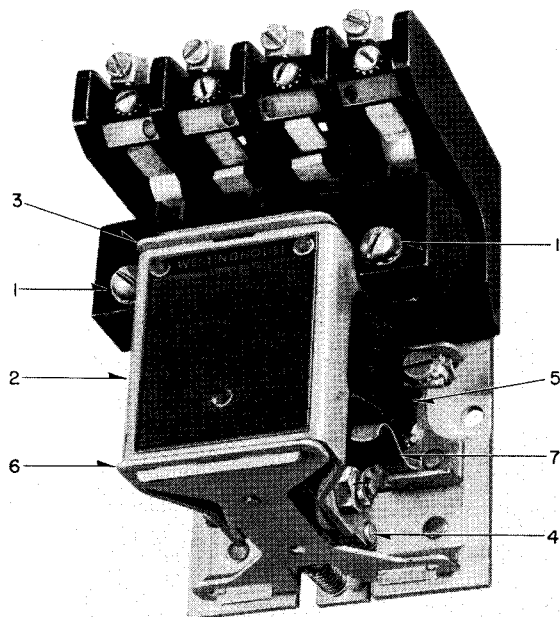

FIG. 1. Type N Control Relay.
Changing Coils. (Refer to Fig. 1) — After disconnecting leads to coil terminals, remove crossbar mounting screws (1) and remove crossbar assembly complete with moving contacts. Next, disengage armature bracket (2) from upper bearing arm (3) by applying pressure with thumbs to upper part of nameplate until the tongue on the bearing arm is freed from the hole in the armature bracket. The armature bracket (2) can then be swung outward and downward until the center leg of the armature (4) clears the coil (5).